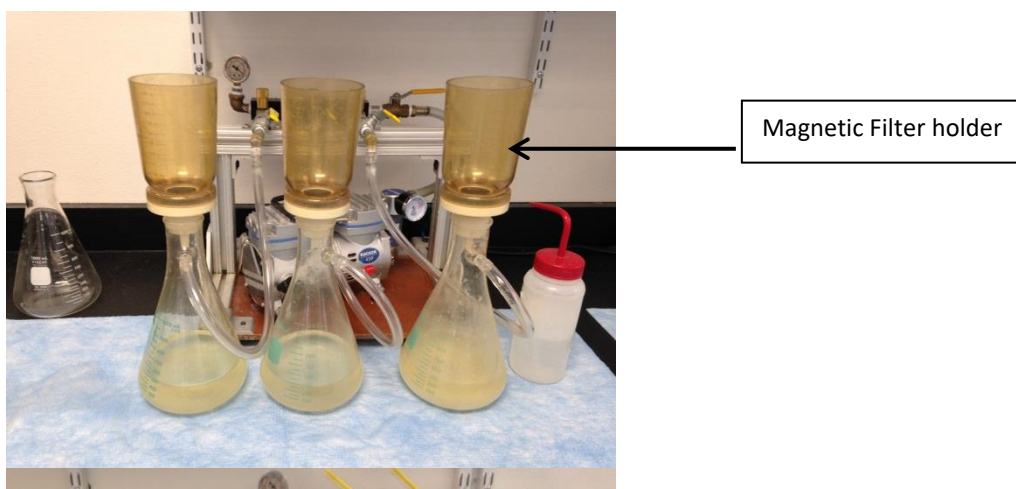
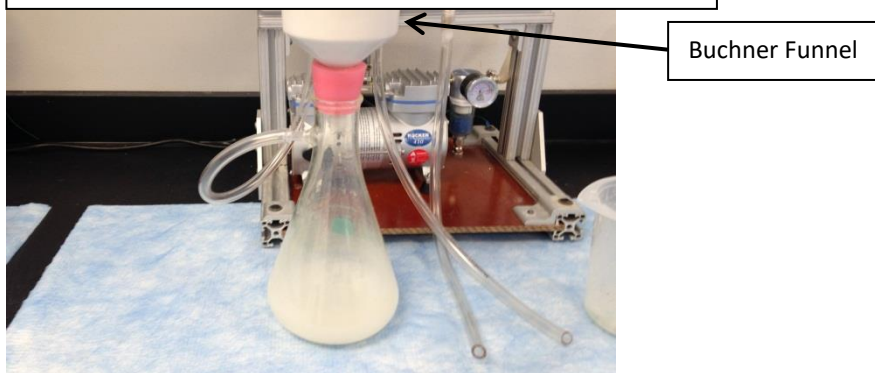

Figure 1.1 Magnetic Filter Funnel Apparatus for GF/C (47mm)
Figure 1.2 Buchner Funnel Apparatus for GF/D (90mm) Filters
- 2.3.1.3 Set up the Magnetic Filter Funnel apparatus without the magnetic filter holder for GF/C (47mm) filters see Figure 1.1. Setup Buchner Funnel Apparatus from Figure 1.2 for GF/D (90mm) filters.
- 2.3.1.4 Place new GF/C (47mm) filter on the filter screen. See Figure 1.1. for GF/C (47mm) filters. If using GF/D (90mm) filters place new GF/D (90mm) filter in Buchner Funnel. See figure 1.2 for GF/D (90mm) filters.
- 2.3.2.2 Set up the Magnetic Filter Funnel apparatus without the magnetic filter holder. (See Figure 1.1)
- 2.3.3.2 Setup Buchner Funnel Apparatus seen in Figure 1.2.
- 2.3.3.4 Using forceps, place a prepared GF/D (90mm) filter from process 2.3.1 in Buchner filter screen. See Figure 1.2